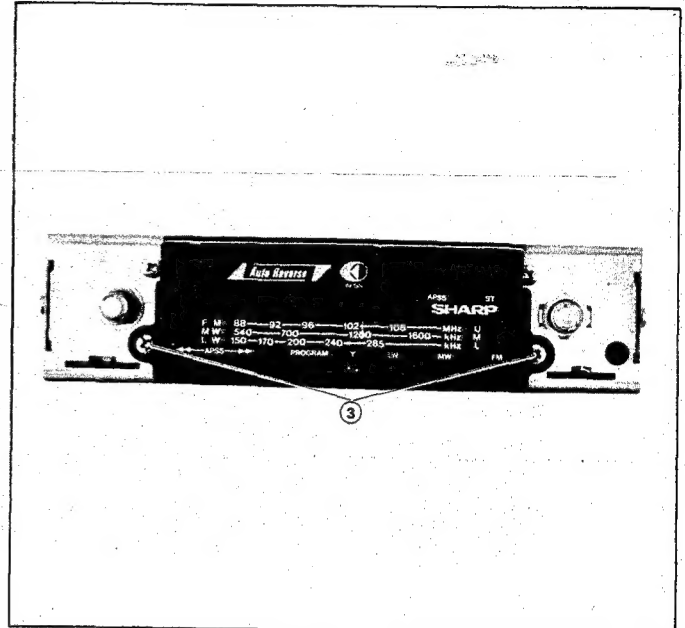

Figure 4-2
- ③ Remove the two (2) screws from the nose piece, then take it out. (See Fig. 4-2)